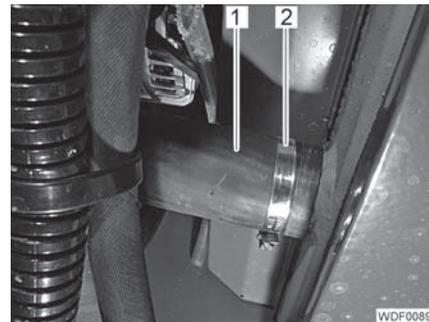

Fig. 72 Cooling hose (bottom)
- Release the hose clamp (Fig. 72,2) on the cooling hose (Fig. 72,1).